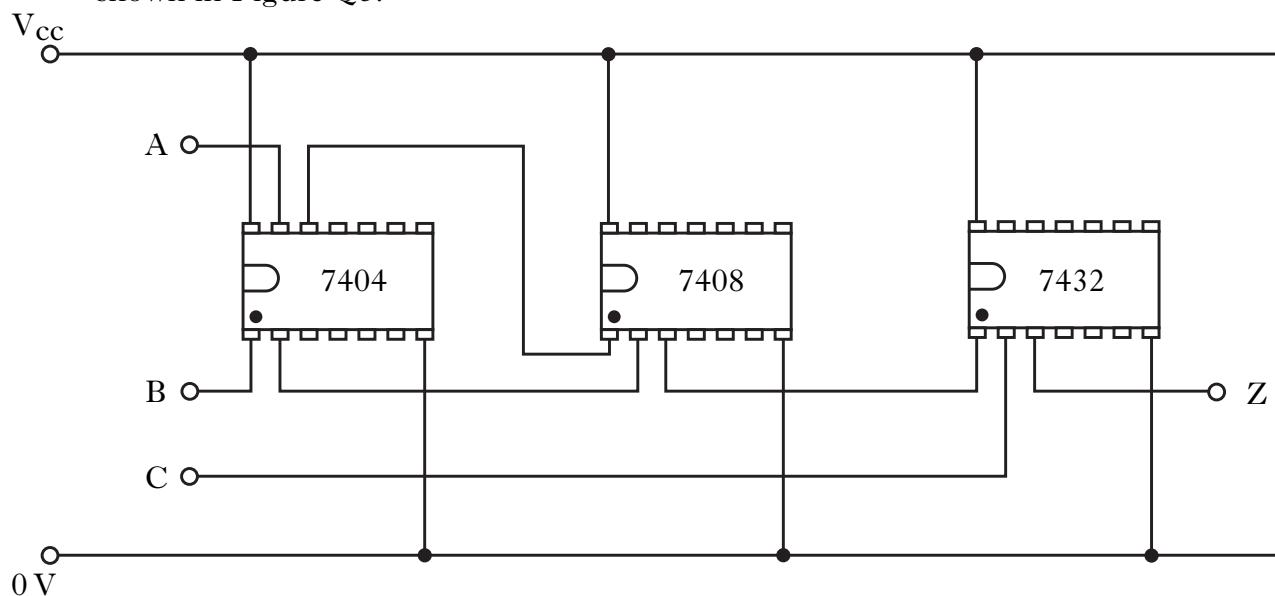

Figure Q3
3. A wiring diagram for a digital electronic circuit used in an alarm system is shown in Figure Q3.
- (i) draw the logic circuit for the wiring diagram shown in Figure Q3;